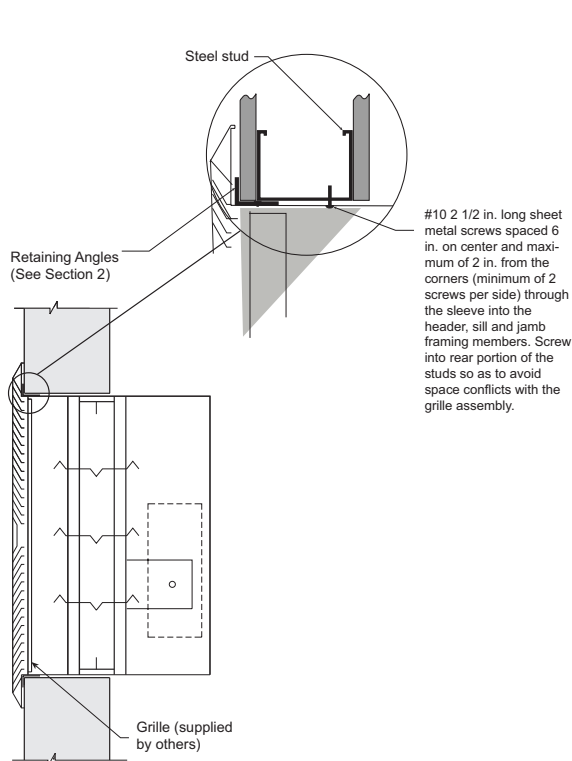

Figure 1 - Metal Stud
- Flange on front (grille end) of sleeve must be a minimum of 16 ga. (1.6 mm) steel and have a 5/8 in. minimum flange leg. Using #10 sheet metal screws, screw from inside of sleeve through the rear portion of the studs (as shown in **Figure 1 and 2**). Space screws a maximum of 6 in. (152 mm) on center and a maximum of 2 in. (51 mm) from the corners (minimum of two screws per side). No retaining angles are required on the side of wall opposite from the grille.